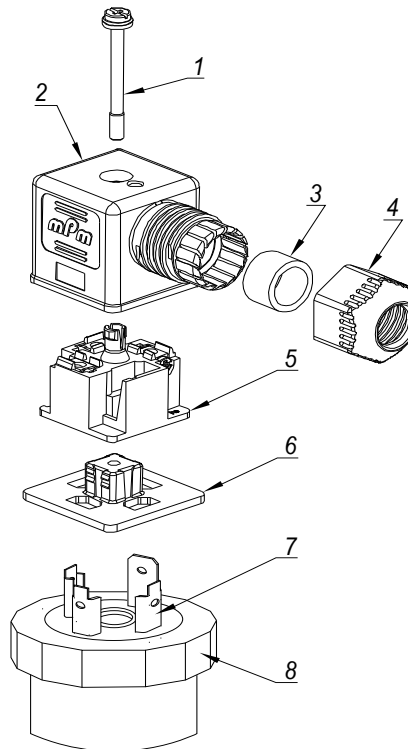

Fig. 5.1 Angular connector according to EN 175301-803
- Loosen the screw (1) (Fig. 5.1) and disconnect the socket (2 + 5 + 6) from the contacts (7).
- Lever the terminal holder (5) out of the enclosure (2) using the mounting hole on the seal (6).